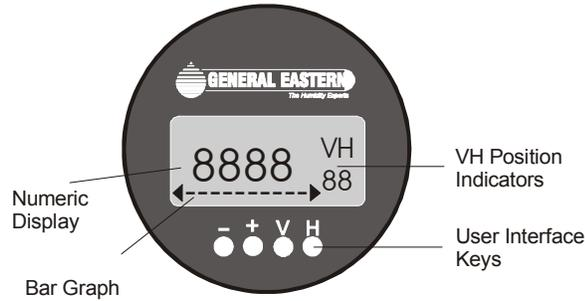

Fig. 19
The display of the DewPro MMY 31 continuously shows the current matrix location using the vertical (V) and horizontal (H) coordinates to designate the row and column, respectively. The bar graph represents the output current in an analogue fashion (refer to Figure 19). See the Appendix for an enlarged overview of the matrix.